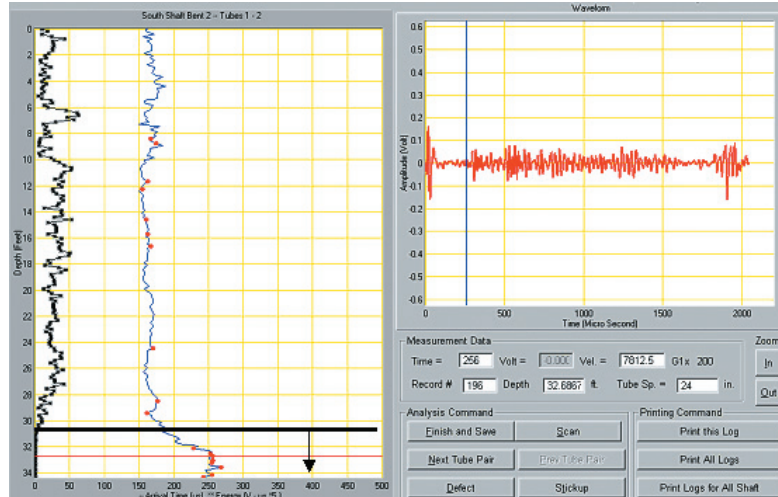

Figure 3. CSL data for a soft bottom defect
**A soft bottom defect** occurs when the base of the concrete shaft is not poured properly allowing for intrusions of soil and/or water. An example is shown in Figure 3 where the soft bottom is characterized by slower velocities and low energy.